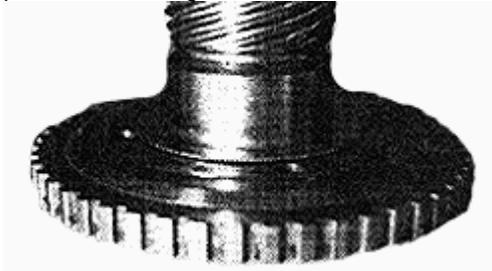

FIG. 3
5. Some output shafts are machined with a radius at the flange that will require grinding a bevel on the bearing race so that it will fit flush against the flange (FIG. 3). Failure to check fit can cause reduced rear unit endplay and premature bearing failure.